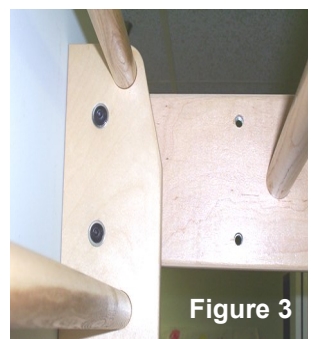

Figure 3
- Raise the assembled ladder and horizontal section and position the available end of the horizontal section against the wall ladder with the sides of the horizontal section on the outside of the wall ladder (Fig. 3). Align the holes in the outside boards with the screw inserts. Put a 3/8" flat washer on four of the 3/8" x 1-1/2" cap screws and put them through the holes in the board and start them into the screw inserts. Tighten all four screws securely using the hex key wrench provided.